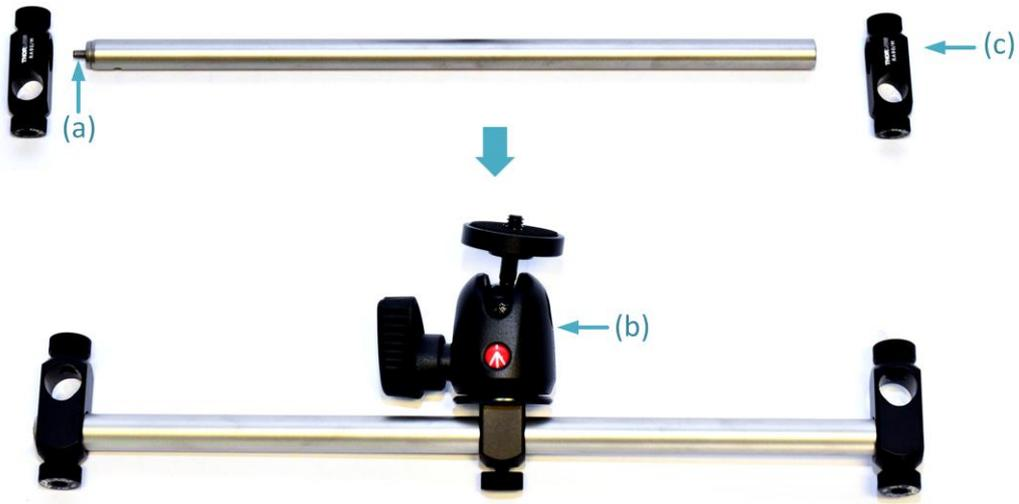

Figure 21 Assembly of the top post for camera mount (Step 3.4)
Step 3.4 Assemble the top road with tripod head (Figure 21)